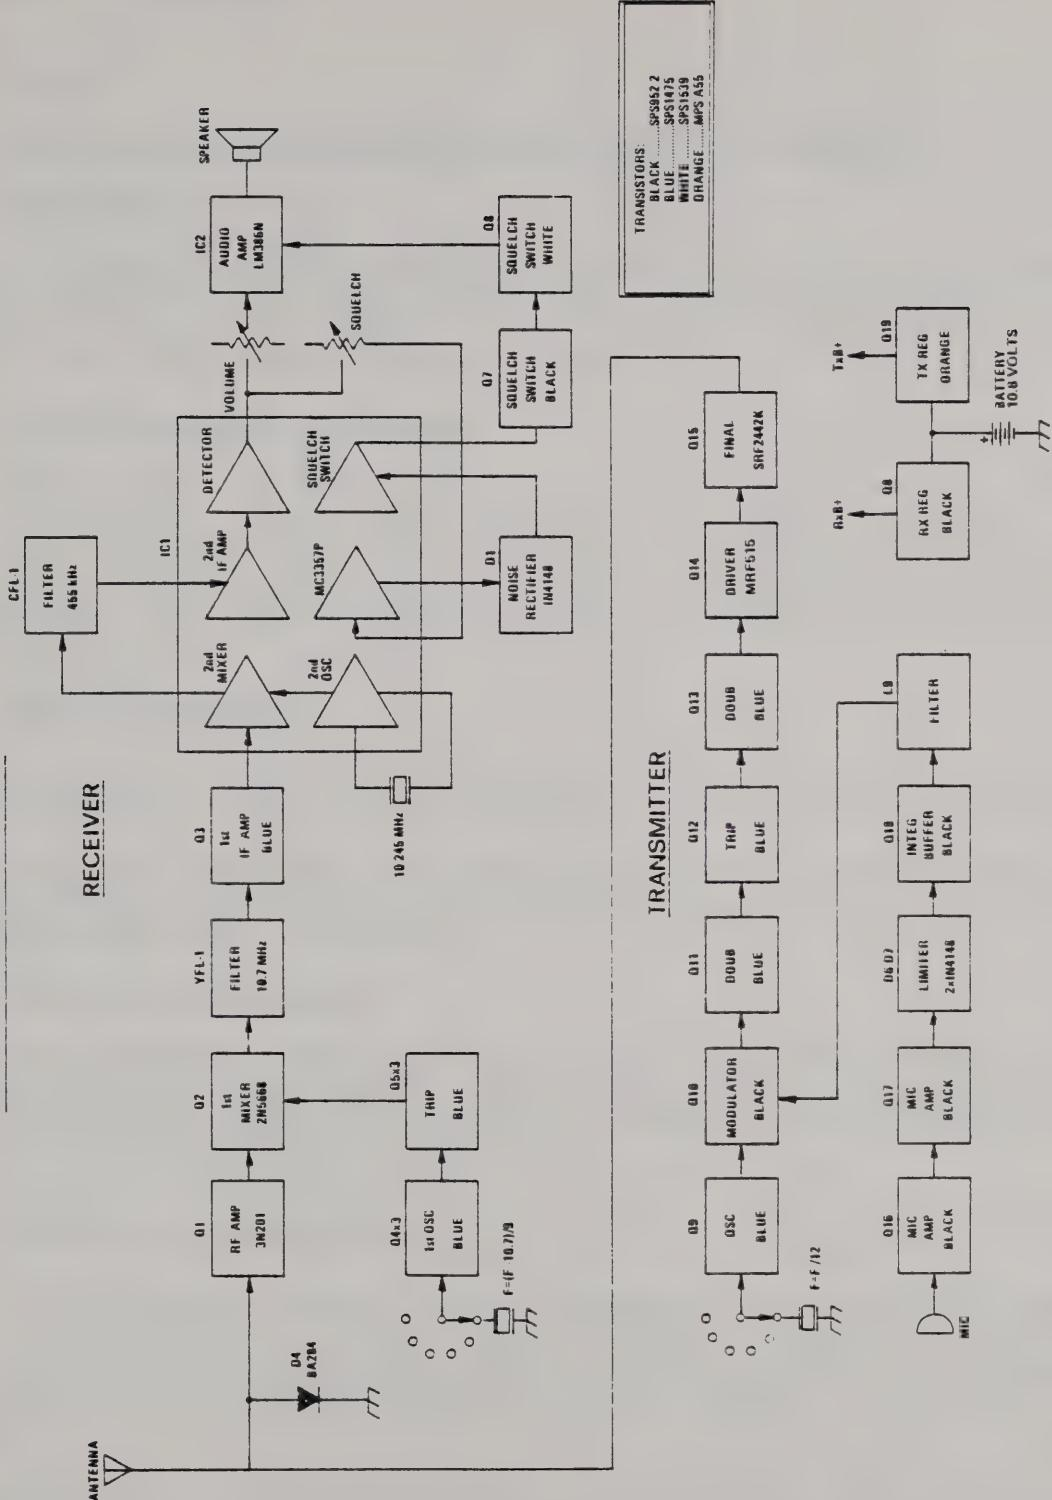

FIGURE 3-1
The Regency MCP-H256A is a hand-held VHF frequency modulated (FM) transceiver that incorporates a dual conversion, superheterodyne receiver and a high power transmitter on a single glass-epoxy board. Refer to Figure 3-1 in the following circuit description.